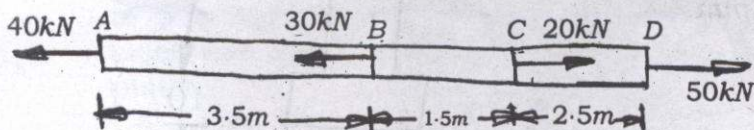

Fig. 05
- (b) A copper rod $ABCD$ of 800mm^2 cross-sectional area and 7.5m long is subjected to forces as shown in *Fig. 05*. Find the total elongation of the bar. Take E for the bar as 100GPa .